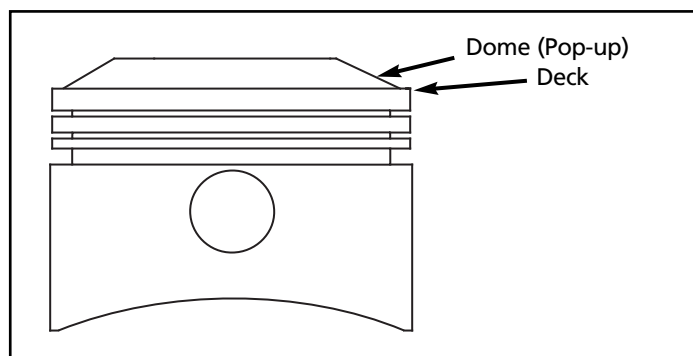

Figure 1
- A. While applying pressure to hold cylinders in position, rotate flywheels so front piston is positioned at top dead center. Note where piston deck (See Figure 1) is positioned in relationship to head gasket surface. Piston deck (flat located just above top compression ring groove), not dome, must be flush with or slightly below gasket surface. If piston deck is higher than cylinder at top dead center, something is wrong and S&S should be notified.